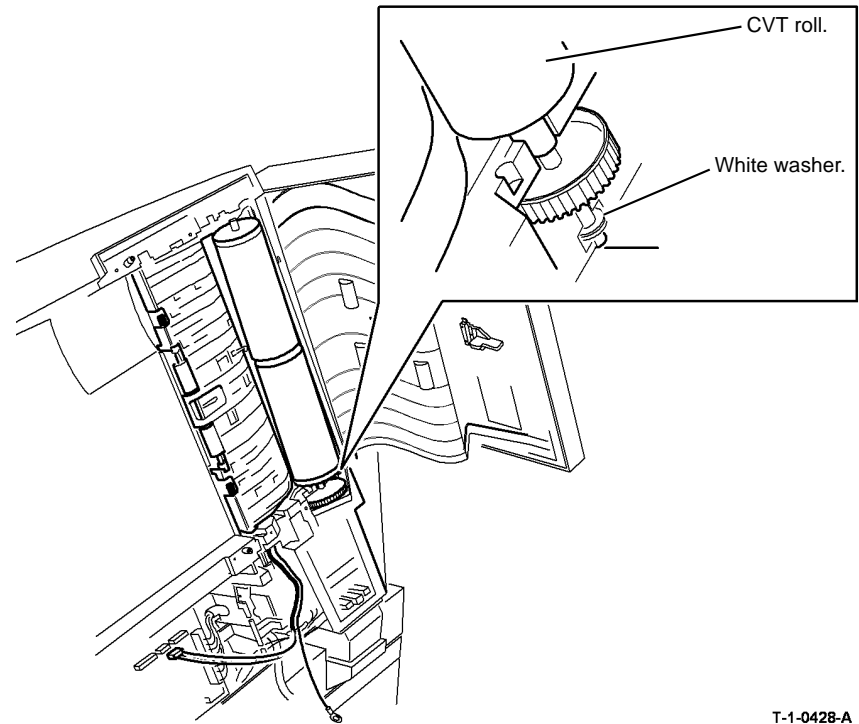

Figure 4 Replacement
1. The replacement is the reverse of the removal procedure. Make sure the white washer is installed correctly, Figure 4.